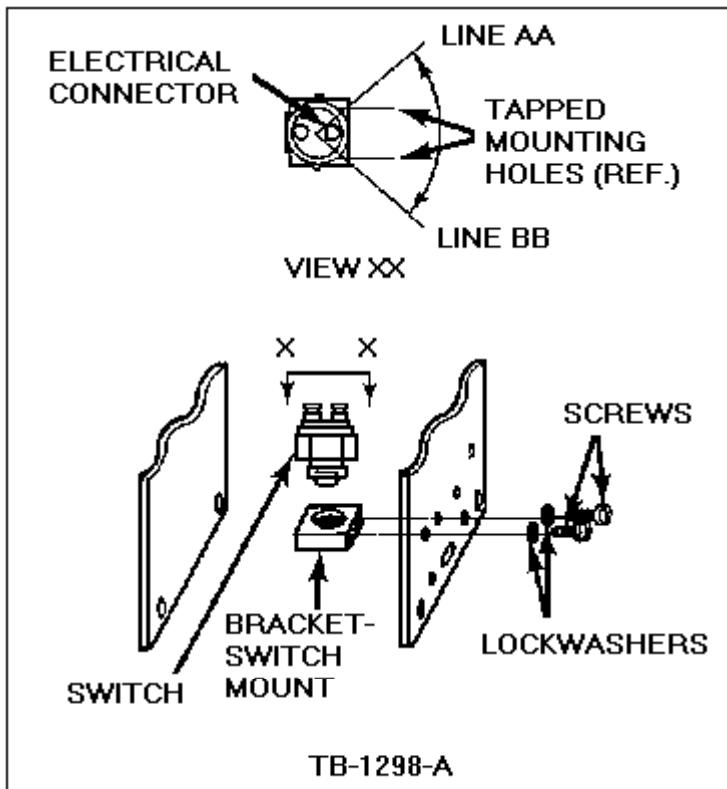

Figure 3 - Article 90-25-18
2. Remove the two mounting screws, Figure 3.
2. Further tighten bracket until first flat on the switch hex aligns with the flat part of the bracket containing the tapped mounting holes, Figure 3.
3. Make sure that one of the switch electrical connectors lies between line AA and BB as shown in Figure 3. It may be necessary to tighten the bracket to align with the second hex flat surface to obtain this position.